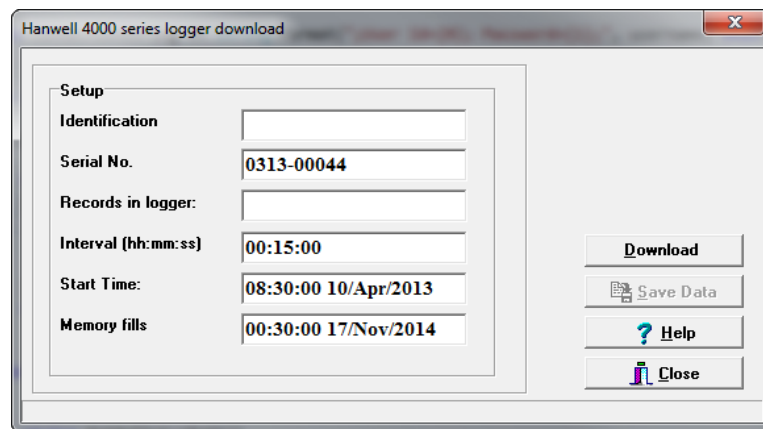

Figure 7
- A **Merge** window similar to that shown in Figure 7 below is displayed: